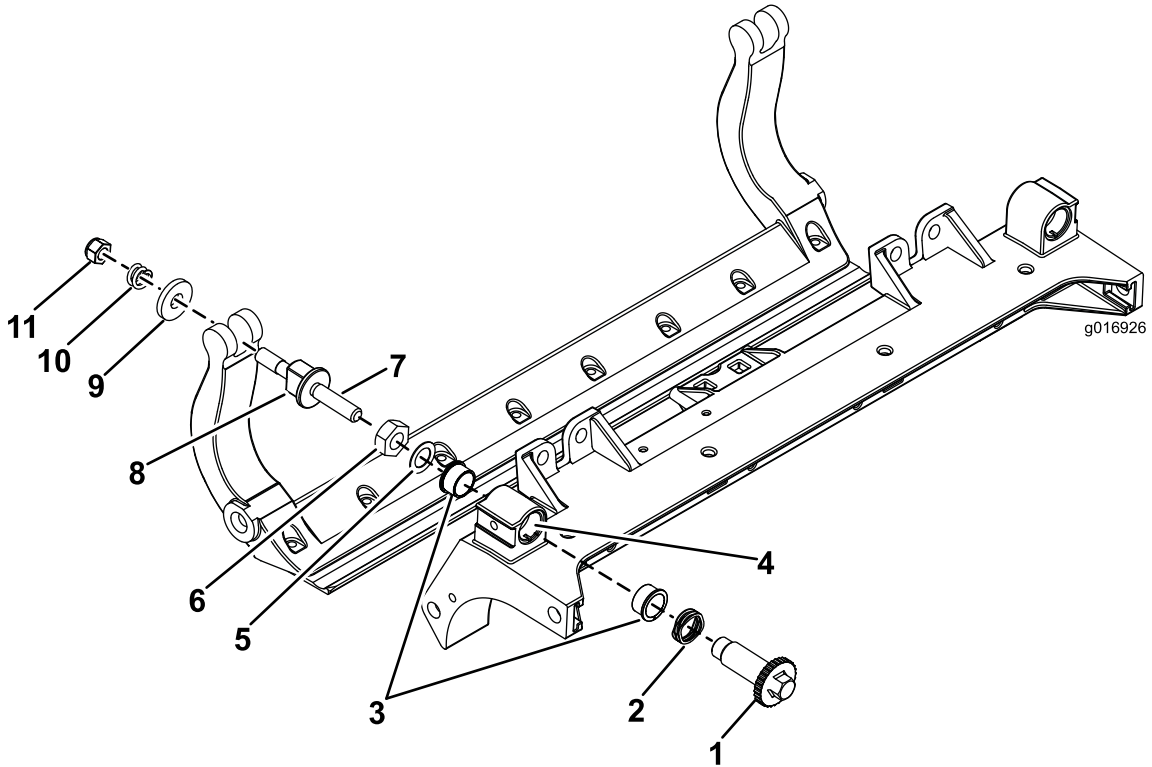

Figure 30
1. Remove all parts (refer to the *Installation Instructions* for the HD DPA Kit and to Figure 30).
2. Apply Never Seize to the inside of the bushing area on cutting unit center frame (Figure 30).
3. Align the keys on flange bushings to the slots in the frame and install the bushings (Figure 30).
4. Install a wave washer onto the adjuster shaft and slide the adjuster shaft into the flange bushings in the cutting unit frame (Figure 30).
5. Secure the adjuster shaft with a flat washer and locknut (Figure 30).
12. Place a steel washer outside each of the nylon washers (Figure 30).
Note: Washers on the inside may have a gap (Figure 30).
15. Tighten the nut on each bedbar adjuster assembly until the compression spring is fully compressed, then loosen the nut 1/2 turn (Figure 30).